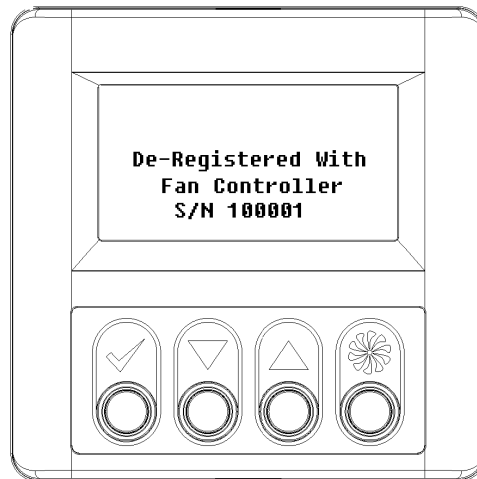

Figure 28 – GRF1 Successful De-Registration
- Upon successful de-registration of the GRF1, a confirmation display should be shown for approximately 1 minute (See Figure 28).